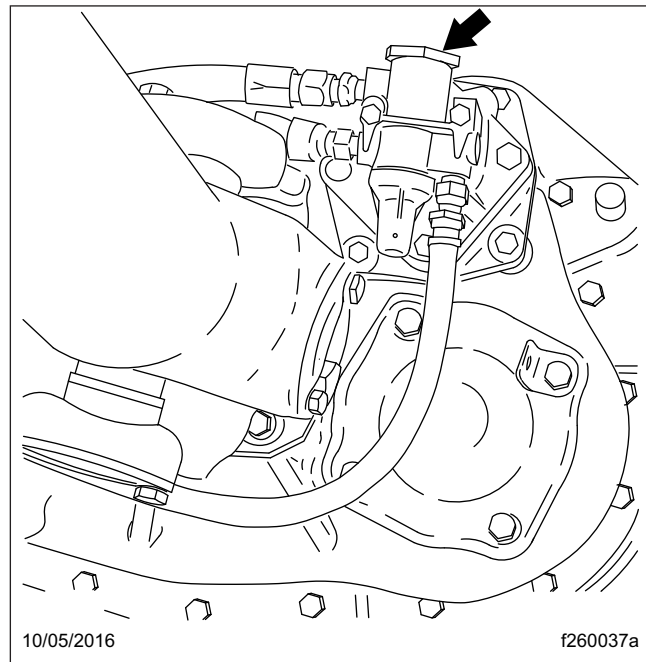

Fig. 6, Air Filter/Regulator Location (Eaton/Fuller transmission shown)
- Clean the outside of the air filter/regulator with cleaning solvent. See **Fig. 6**.